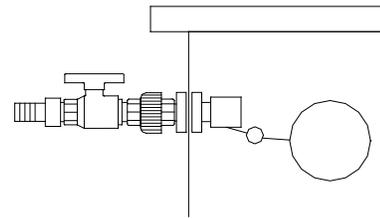

figure 3-3
- Connect the raw water supply to the head tank inlet. (figure 3-3)